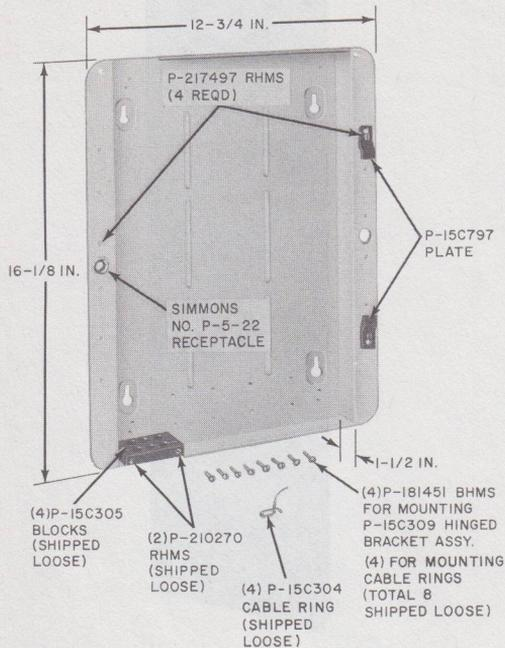

Fig. 21—177A Aluminum Backboard Assembly (MD)
3.04 The 177A die-cast aluminum (Fig. 21) backboard has been replaced by a fiber glass (Fig. 22) backboard. The fiber glass type requires self-tapping screws while the aluminum type requires machine screws for attachment. The 177A backboard is designed for use with the 31B apparatus mounting. A shallow dish-shaped recess provides space for mounting 66-type connecting blocks. The P-15C797 plates, drilled and tapped to permit right or left hinging and fastening of 31B apparatus mounting, may be mounted on either side to hold the gate in an open position. To adapt the 177A backboard for use with the 31A apparatus mounting, use the D-179862 kit assembly. It consists of a 177A backboard, two metal details, and two 66B1-25 connecting blocks.